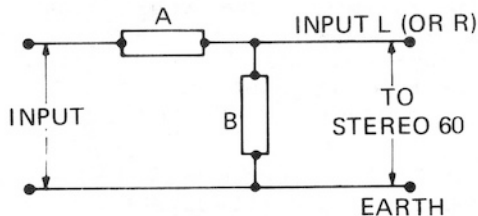

Fig 3.8.1
a) Via a 1M or 2M2 resistor (A in fig. 3.8.1) to a flat input, when resistor B is chosen to suit the cartridge's output as follows:
b) Loading with a capacitor. In this case the cartridge is fed direct to a flat input and the capacitor fitted in place of network B (fig. 3.8.1.)